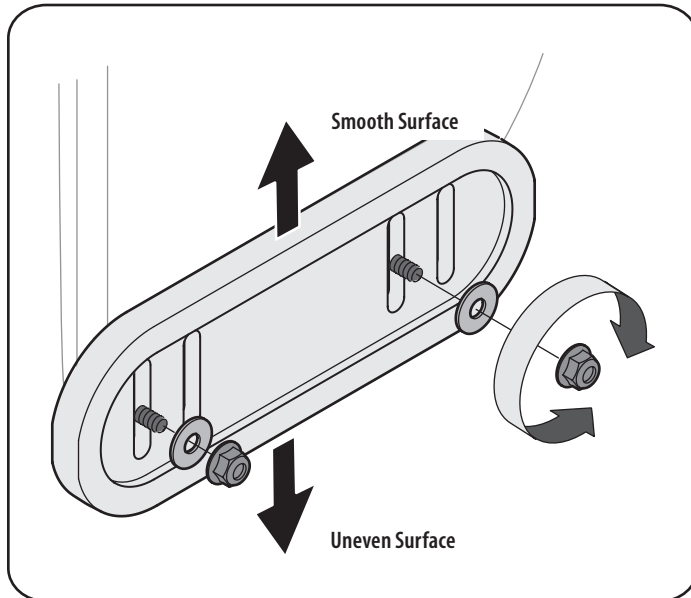

Figure 45
- For close snow removal on a smooth surface, raise skid shoes higher on the auger housing. Refer to Figure 45.
1. Loosen the four hex nuts (two on each side), flat washers, and carriage bolts. Move skid shoes to desired position. See Figure 45.
NOTE: The skid shoes on your unit may look slightly different (and have different hardware) than ones shown in Figure 45.